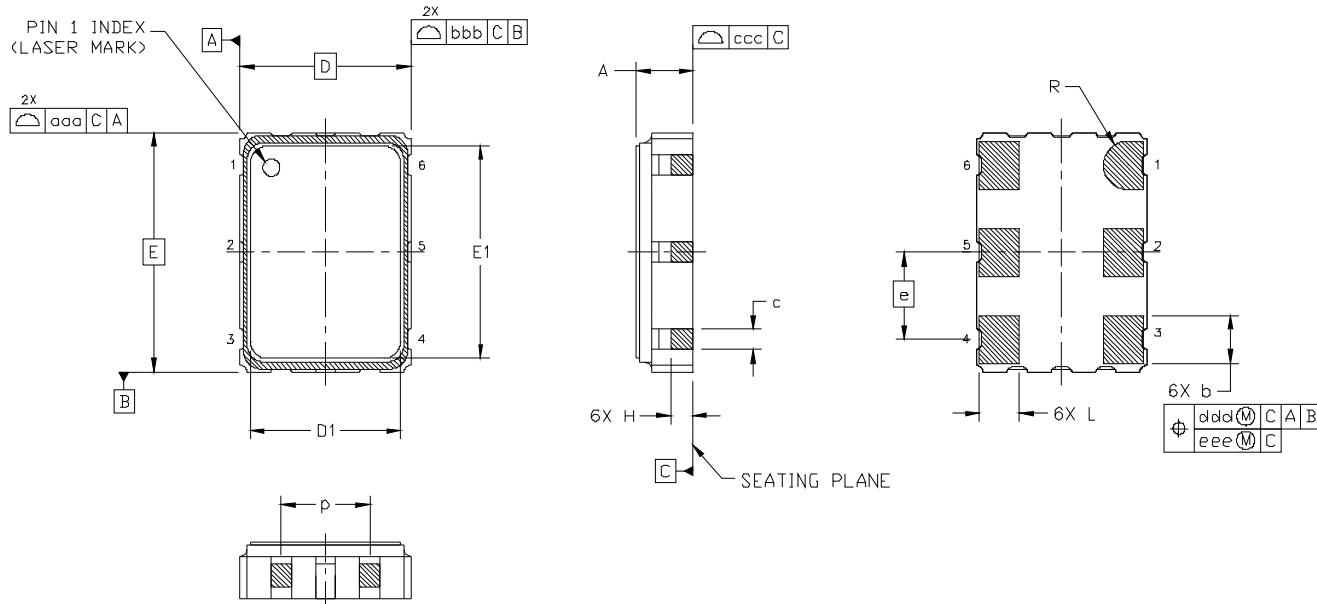

Figure 2. Si550 Outline Diagram
Figure 2 illustrates the package details for the Si550. Table 12 lists the values for the dimensions shown in the illustration.
- Added crystal impedance pin in Figure 2 on page 12 and Table 12 on page 12.